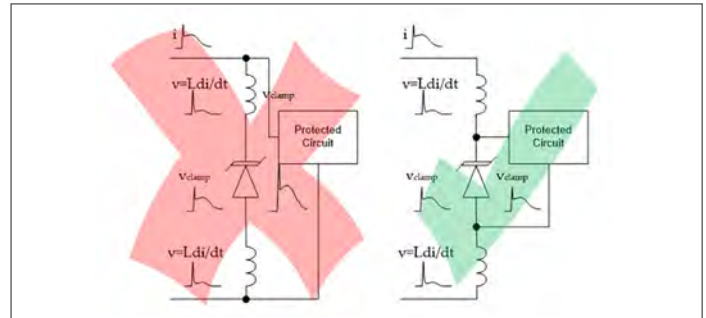

Figure 8: Minimizing parasitic inductance effects
2. Use Kelvin like connections to avoid adding spikes due to parasitic inductance (Figure 8).